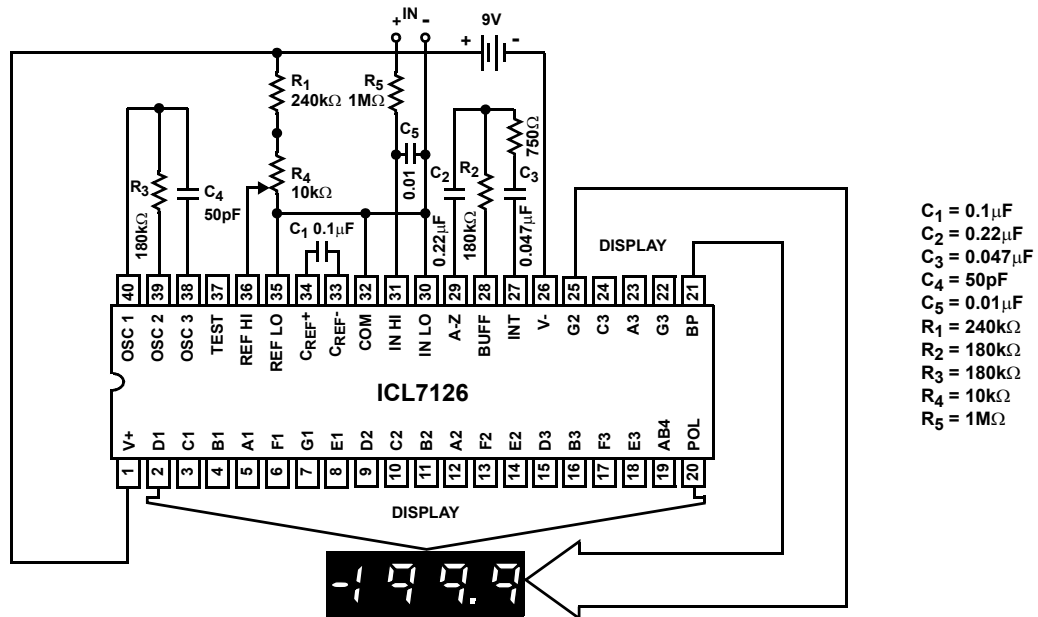

FIGURE 1. ICL7126 TEST CIRCUIT AND TYPICAL APPLICATION WITH LCD DISPLAY COMPONENTS SELECTED FOR 200mV FULL SCALE
- Unless otherwise noted, specifications are tested using the circuit of Figure 1.